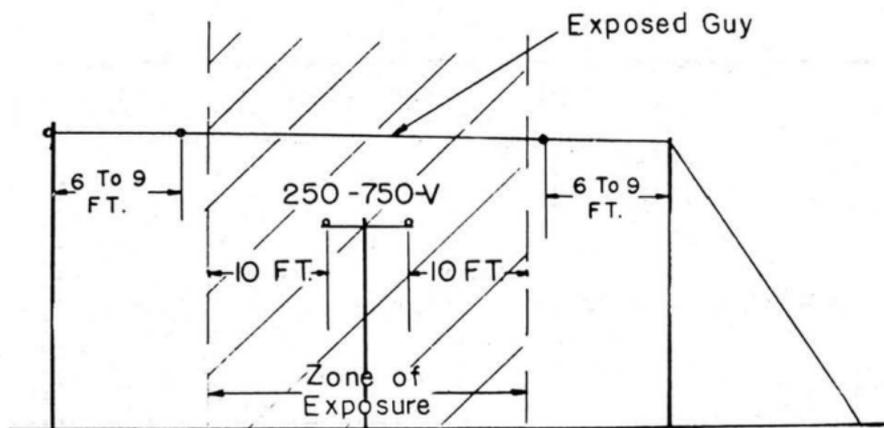

FIG. 106
- (a) Where a guy must be placed over power conductors of 250 - 750 volts, 1 to 2 strain insulators shall be placed in the guy to isolate the exposure. (See Figure 106.)